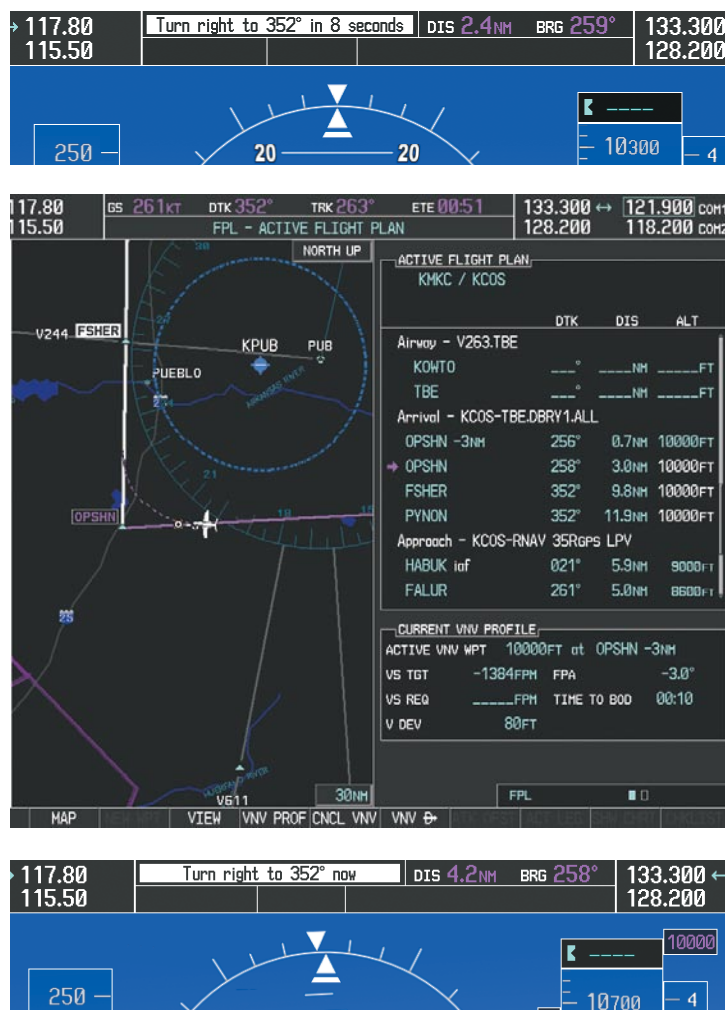

Figure 5-135 Turn to intercept OPSHN to FSHER Leg
- 18) The aircraft is approaching OPSHN. The upcoming turn and next heading are annunciated at the top left of the PFD as seen in Figure 5-135. Initiate the turn and maneuver the aircraft on a track through the turn radius to intercept the magenta line for the OPSHN to FSHER leg and center the CDI.